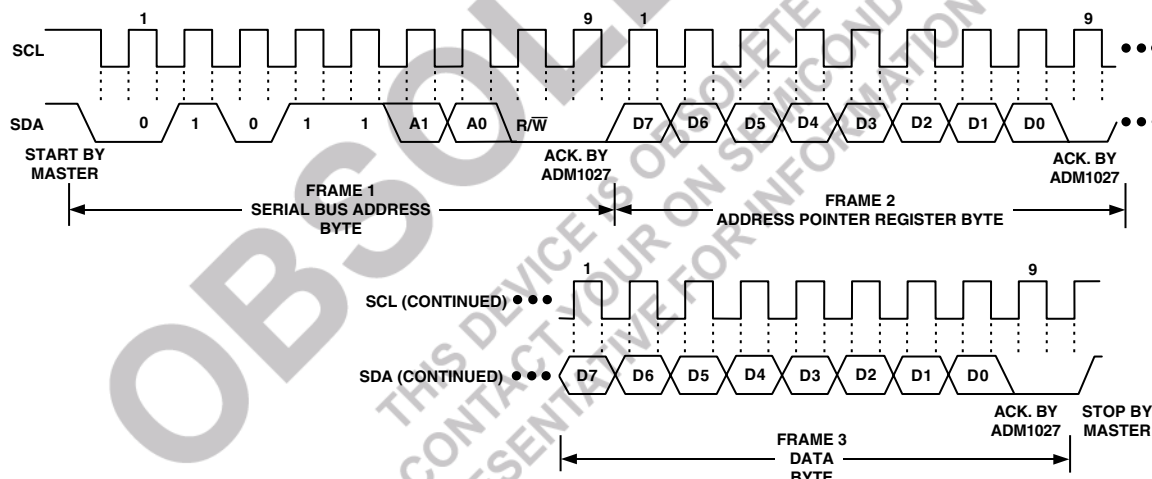

Figure 6. Writing a Register Address to the Address Pointer Register, Then Writing Data to the Selected Register
This is illustrated in Figure 6. The device address is sent over the bus followed by R/\overline{W} being set to 0. This is followed by two data bytes. The first data byte is the address of the internal data
2. In Figures 6 to 8, the serial bus address is shown as the default value 01011(A1)(A0), where A1 and A0 are set by the address select mode function previously defined.